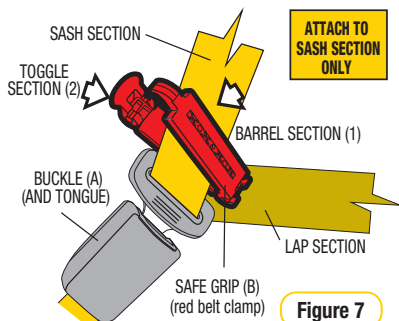

Figure 7
- Whilst continuing to pull the sash section up (i.e. maintaining tightness of the lap section) attach the **Safe Grip** (red belt clamp) on the sash section as close as possible above the buckle tongue. (refer Figure 7 and instruction for installing the **Safe Grip** red belt clamp refer page 16).
To install the **Safe Grip** (red belt clamp), open it and clamp the “sash section” of the vehicle seat belt by closing the barrel section of the red belt clamp in the direction of arrow 1 in Figure 7 and then locking with the toggle section by pushing in the direction of arrow 2 in Figure 7 when the **Safe Grip** (red belt clamp) is secured in place, the lap section is now tightly holding your child restraint in place, independent of the sash section.